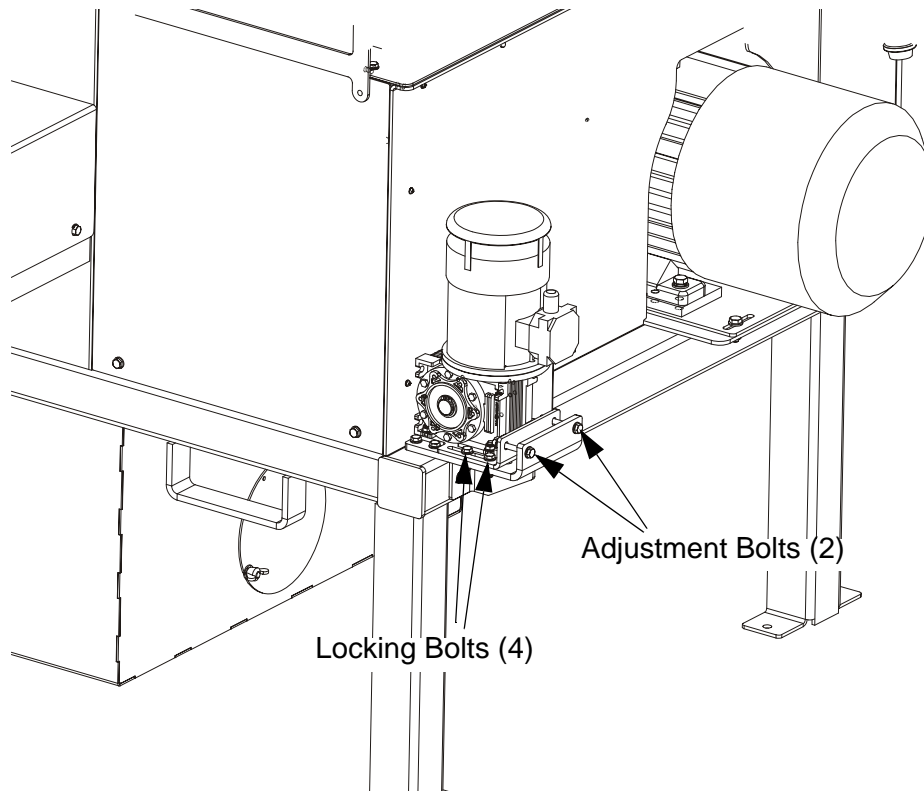

FIG. 5-5
**See Figure 5-5.** To tension the blade positioning chain, unbolt and open the gearbox housing cover. Loosen the locking bolts. Using adjustment bolts, tension the chain. After that, tighten the locking bolts.